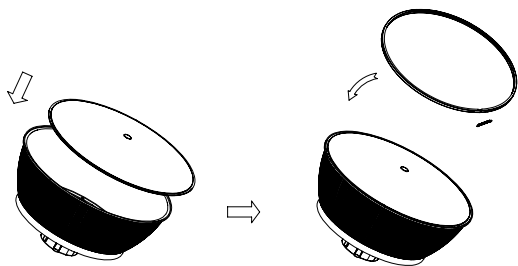

Figure 14
2. **Position the Circular Steel Channel:** Open the ends of the circular steel channel and place it around both the cone lens flange and the flange of the prismatic reflector. (See Figure 14)